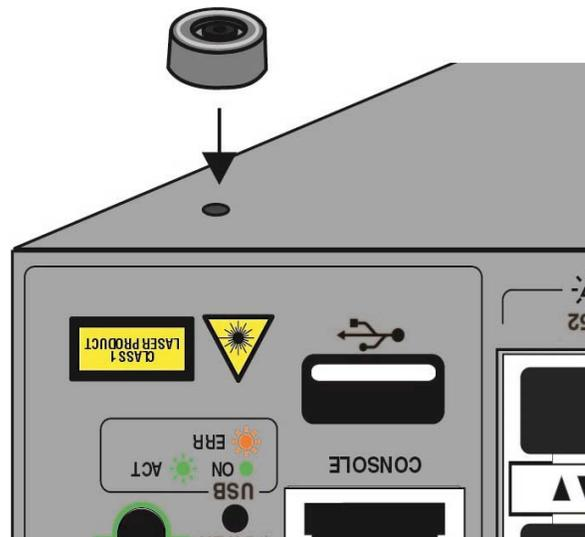

Figure 17. Place the Bumper Foot on a Base Corner Hole
- b. Place the bumper foot on one of the corner holes in the base of the switch. Refer to Figure 17.